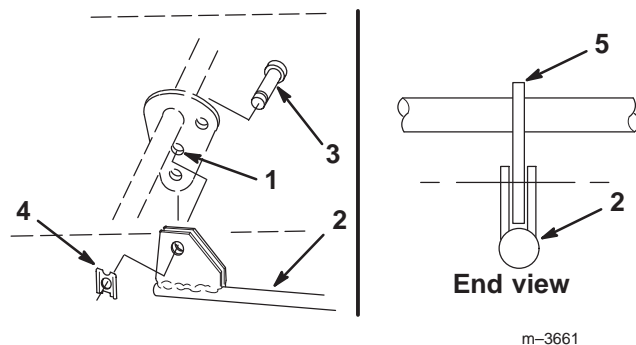

Figure 17
8. From beneath the tractor, connect the snowthrower rod assembly to the middle hole in the attachment lift plate (lift plate goes between the rod assembly plates) with the 1" (25 mm) clevis pin and clip (Fig. 17).